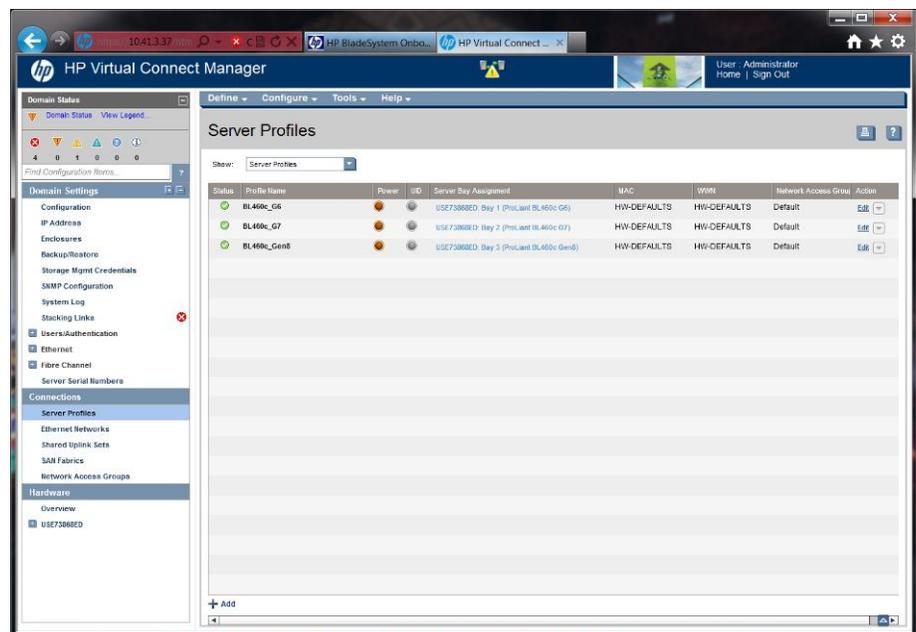

Figure 20: The Server Profiles screen.
1. In the left pane of the Virtual Connect Manager, click Server Profiles. (See Figure 20.)